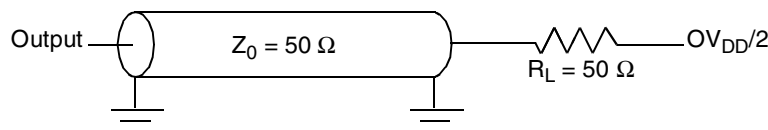
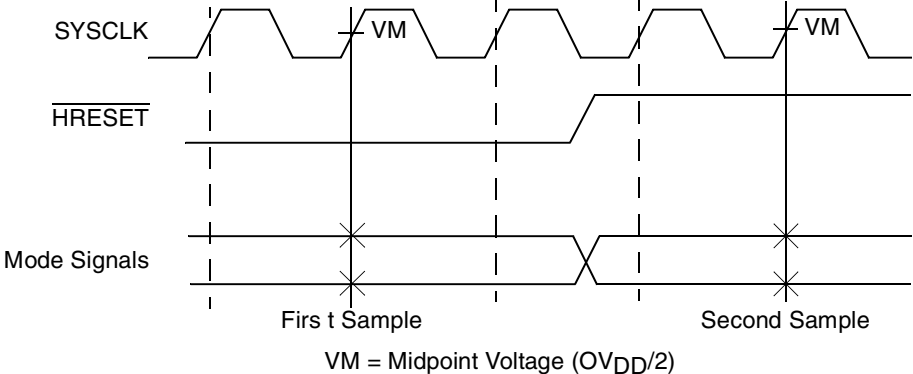
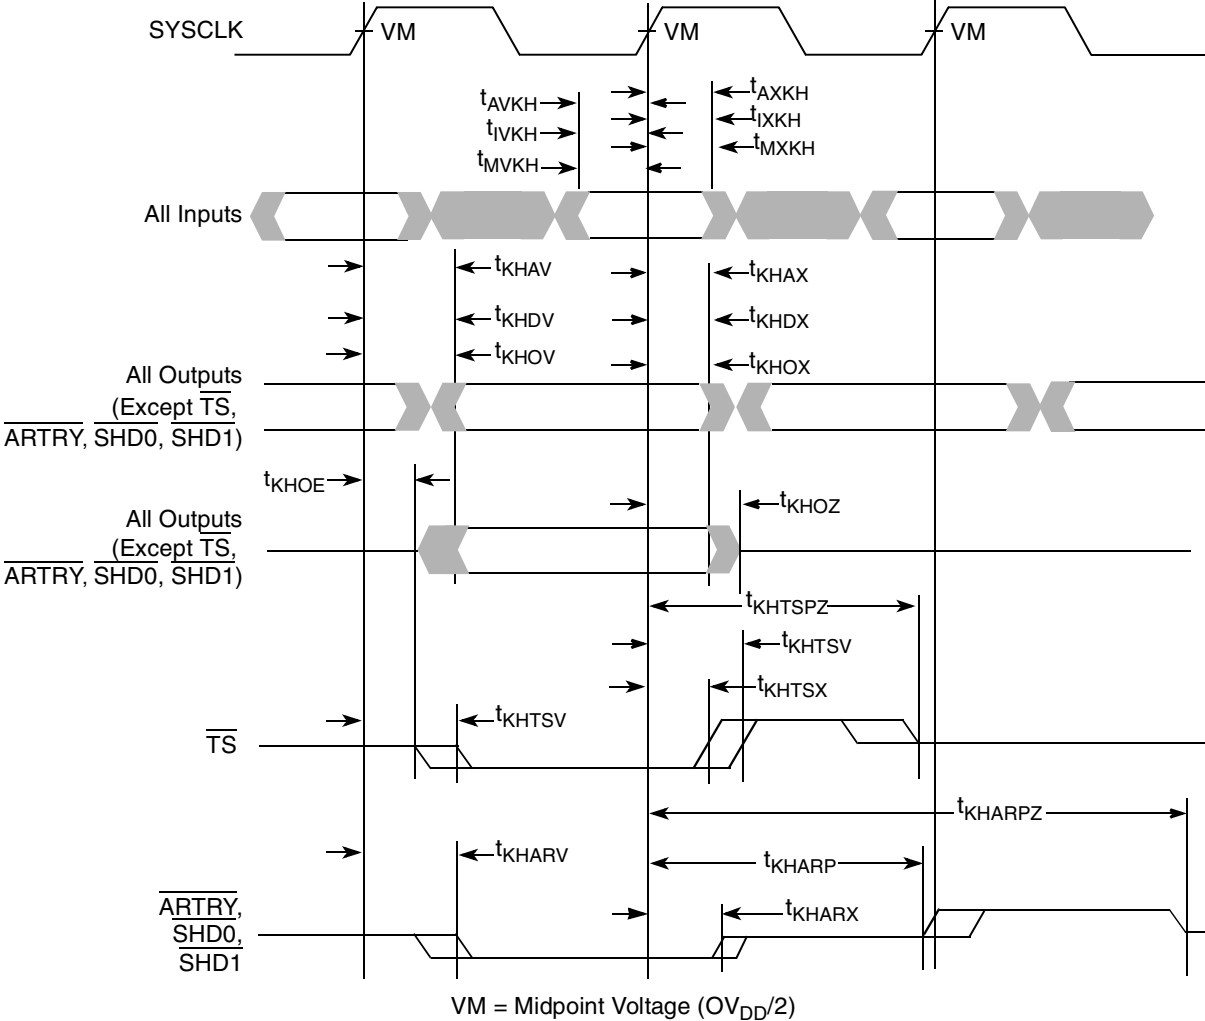

Figure 4. AC Test Load
Figure 5. Mode Input Timing Diagram
Figure 6. Input/Output Timing Diagram
Table 9 provides the processor bus AC timing specifications for the MPC7455 as defined in Figure 4 and Figure 5. Timing specifications for the L3 bus are provided in Section 5.2.3, “L3 Clock AC Specifications.”
- All input specifications are measured from the midpoint of the signal in question to the midpoint of the rising edge of the input SYSCLK. All output specifications are measured from the midpoint of the rising edge of SYSCLK to the midpoint of the signal in question. All output timings assume a purely resistive 50-Ω load (see Figure 4). Input and output timings are measured at the pin; time-of-flight delays must be added for trace lengths, vias, and connectors in the system.
- The symbology used for timing specifications herein follows the pattern of $t_{(\text{signal})(\text{state})(\text{reference})(\text{state})}$ for inputs and $t_{(\text{reference})(\text{state})(\text{signal})(\text{state})}$ for outputs. For example, t_{VKH} symbolizes the time input signals (I) reach the valid state (V) relative to the SYSCLK reference (K) going to the high (H) state or input setup time. And t_{KHOV} symbolizes the time from SYSCLK(K) going high (H) until outputs (O) are valid (V) or output valid time. Input hold time can be read as the time that the input signal (I) went invalid (X) with respect to the rising clock edge (KH) (note the position of the reference and its state for inputs) and output hold time can be read as the time from the rising edge (KH) until the output went invalid (OX).
- According to the bus protocol, $\overline{\text{TS}}$ is driven only by the currently active bus master. It is asserted low then precharged high before returning to high impedance as shown in Figure 6. The nominal precharge width for $\overline{\text{TS}}$ is $0.5 \times t_{\text{SYSCLK}}$, that is, less than the minimum t_{SYSCLK} period, to ensure that another master asserting $\overline{\text{TS}}$ on the following clock will not contend with the precharge. Output valid and output hold timing is tested for the signal asserted. Output valid time is tested for precharge. The high-impedance behavior is guaranteed by design.
- According to the bus protocol, $\overline{\text{ARTRY}}$ can be driven by multiple bus masters through the clock period immediately following $\overline{\text{AACK}}$. Bus contention is not an issue because any master asserting $\overline{\text{ARTRY}}$ will be driving it low. Any master asserting it low in the first clock following $\overline{\text{AACK}}$ will then go to high impedance for one clock before precharging it high during the second cycle after the assertion of $\overline{\text{AACK}}$. The nominal precharge width for $\overline{\text{ARTRY}}$ is $1.0 t_{\text{SYSCLK}}$; that is, it should be high impedance as shown in Figure 6 before the first opportunity for another master to assert $\overline{\text{ARTRY}}$. Output valid and output hold timing is tested for the signal asserted. The high-impedance behavior is guaranteed by design.
- $\text{BMODE}[0:1]$ and BVSEL are mode select inputs and are sampled before and after $\overline{\text{HRESET}}$ negation. These parameters represent the input setup and hold times for each sample. These values are guaranteed by design and not tested. These inputs must remain stable after the second sample. See Figure 5 for sample timing.
Figure 4 provides the AC test load for the MPC7455.
Figure 5 provides the mode select input timing diagram for the MPC7455.
Figure 6 provides the input/output timing diagram for the MPC7455.